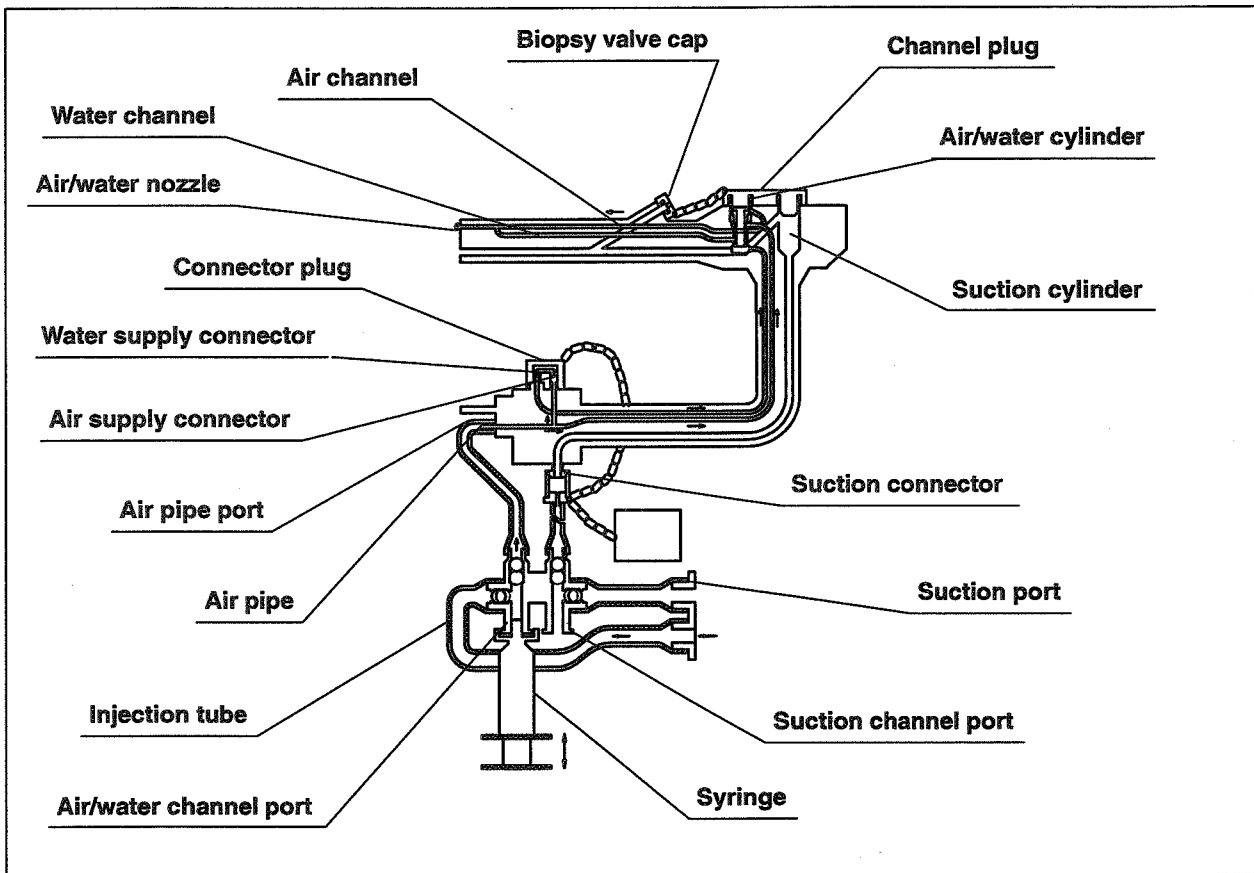

Figure 3.22
7. Attach the 30 cm³ (30 ml) syringe to the injection tube's air/water channel port (see Figure 3.22).
2. Attach the 30 cm³ (30 ml) syringe to the injection tube's air/water channel port and inject 90 cm³ (90 ml) of clean water into the air/water channel (see Figure 3.22).
8. Attach the 30 cm³ (30 ml) syringe to the injection tube's air/water channel port and flush the air/water channel with 90 cm³ (90 ml) of air (see Figure 3.22).